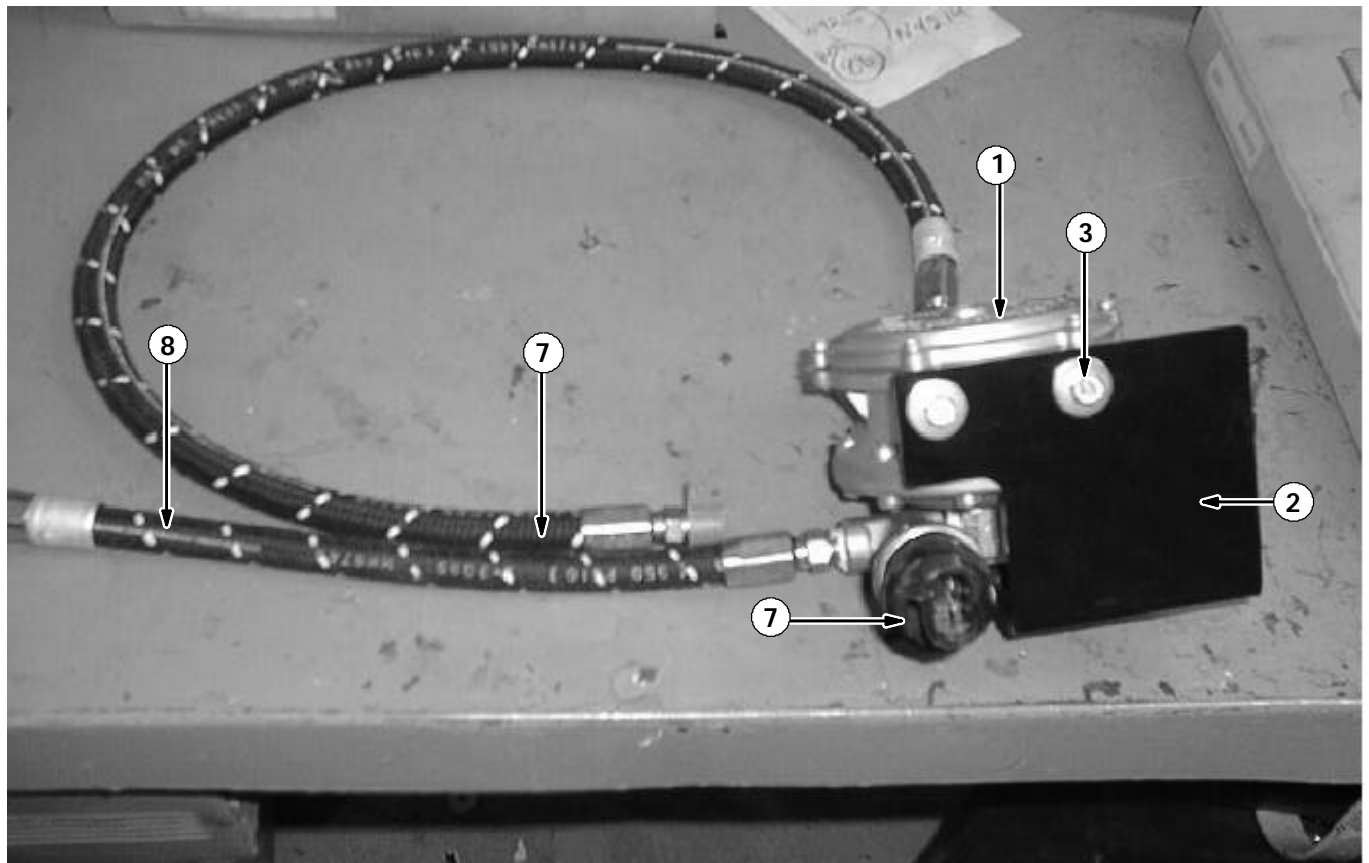

FIG. 3 - NEW FUELOCK FILTER ASSEMBLY
10. Mount the new LPG fuellockoff filter (1) to the angle plate (2) with mounting screws (3). (Refer to FIG. 3)
11. Set assembled LPG fuellockoff filter (1), fittings and hoses (8 and 13) aside. (Refer to FIG. 3)